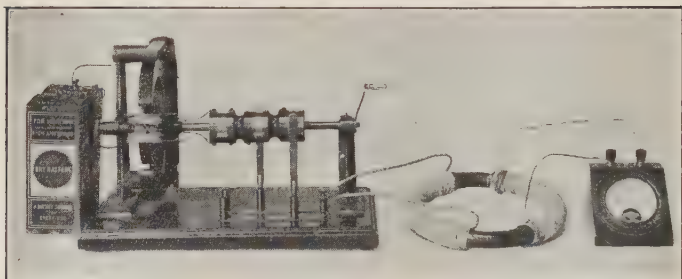

FIGURE 488.—ALTERNATOR AND TRANSFORMER.
**EXPERIMENT 122.** — Wind several hundred turns of insulated wire on one half of an iron ring and twice as many turns on the other half (Figure 488). Connect the small coil to a source of alternating current and the larger coil to an A.C. voltmeter with a 220-volt range. Pass current through the primary coil attached to the A.C. source and note the deflection reading of the voltmeter attached to the secondary. Also attach the voltmeter to the primary terminals. The secondary voltage